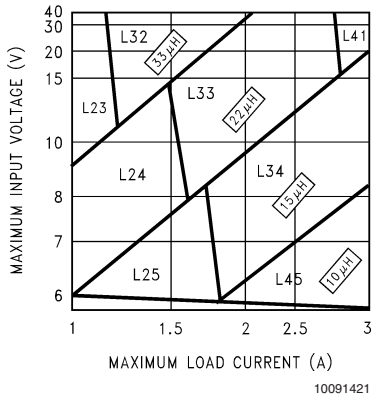
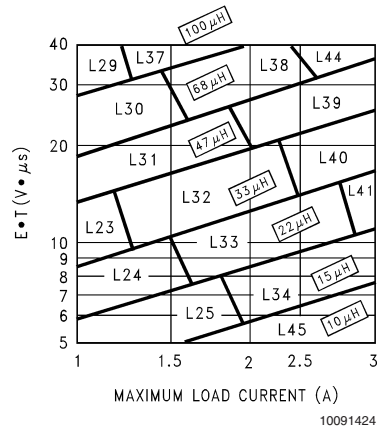

FIGURE 3. LM2676-3.3
FIGURE 6. LM2676-ADJ
**Step 3:** Determine the inductor required by using one of the four nomographs, *Figure 3* through *Figure 6*. Table 1 provides a specific manufacturer and part number for the inductor.
**Step 5:** Determine an input capacitor from Table 4 for fixed output voltage applications. Use Table 2 to find the specific capacitor type. For adjustable output circuits select a capacitor from Table 2 with a sufficient working voltage (WV) rating greater than  $V_{in\ max}$ , and an rms current rating greater than one-half the maximum load current (2 or more capacitors in parallel may be required).
**Step 3:** Use the nomograph for the 3.3V device, *Figure 3*. The intersection of the 16V horizontal line ( $V_{in\ max}$ ) and the 2.5A vertical line ( $I_{load\ max}$ ) indicates that L33, a 22 $\mu\text{H}$  inductor, is required.
**Step 3:** To use the nomograph for the adjustable device, Figure 6, requires a calculation of the inductor Volt•microsecond constant (E•T expressed in V• $\mu$ S) from the following formula:
Using Figure 6, the intersection of 27V• $\mu$ S horizontally and the 2A vertical line ( $I_{load}$  max) indicates that L38, a 68 $\mu$ H inductor, should be used.
**Important Note:** When using the adjustable device in low voltage applications (less than 3V output), if the nomograph, Figure 6, selects an inductance of 22 $\mu$ H or less, Table 6 does not provide an output capacitor solution. With these conditions the number of output capacitors required for stable operation becomes impractical. It is recommended to use either a 33 $\mu$ H or 47 $\mu$ H inductor and the output capacitors from Table 6.